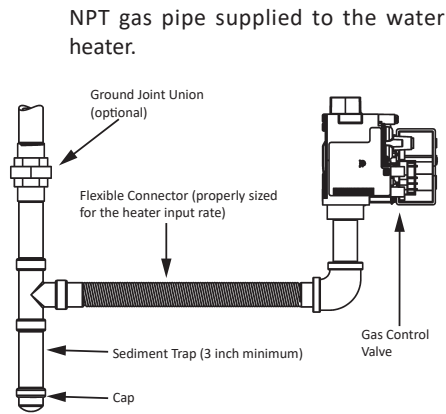
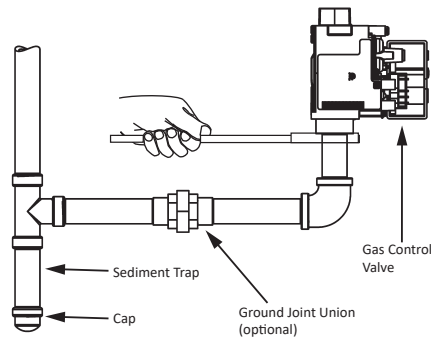

Figure 52. Flexible Pipe to Gas Valve
Figure 53. Black Pipe to Gas Valve
Follow the instructions below and see **Figure 52** and **Figure 53** for gas piping installation.
4. Install a ground union between the water heater and the manual shut-off valve. This is to allow easy servicing. See **Figure 53** (page 42).